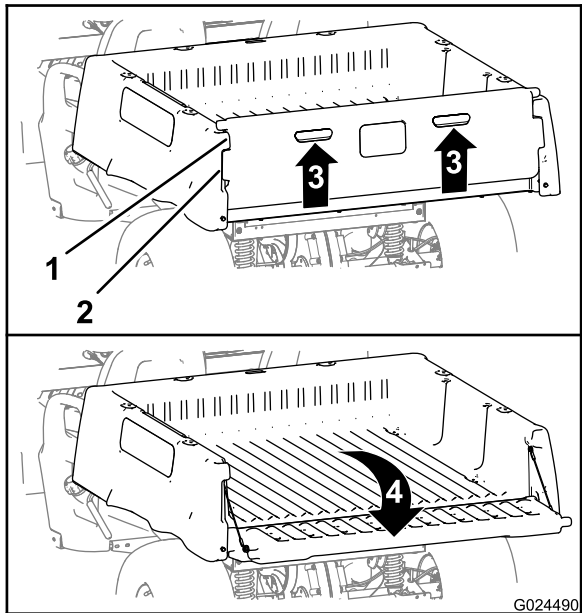

Figure 18
- 2. Lift up on the finger pulls at the back panel of the tail gate (Figure 18).
3. Align the lock flanges of the tailgate with the openings between the tailgate flanges of the cargo box (Figure 18).
4. Rotate the tail gate rearward and down (Figure 18).
6. Rotate the tailgate up and forward until the lock flanges of the tailgate are flush with the tailgate pocket in the cargo box (Figure 18).
7. Lower the tailgate until it is seated in the back of the cargo box (Figure 18).